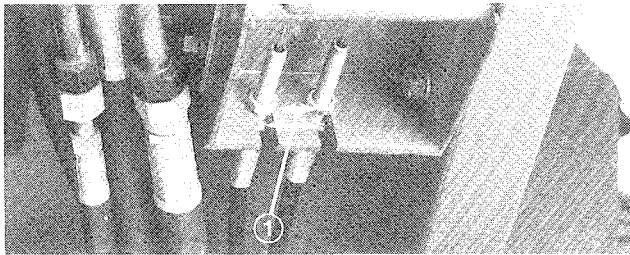

Figure 57
1. To reduce free travel of turn pedals—tighten the brakes—loosen front nut on threaded end of brake cable (Fig. 57). Then tighten rear nut to move cable backward until turn pedals have 1/2 to 1 inch (13 to 25 mm) of free travel. Tighten front nut after brakes are adjusted correctly.